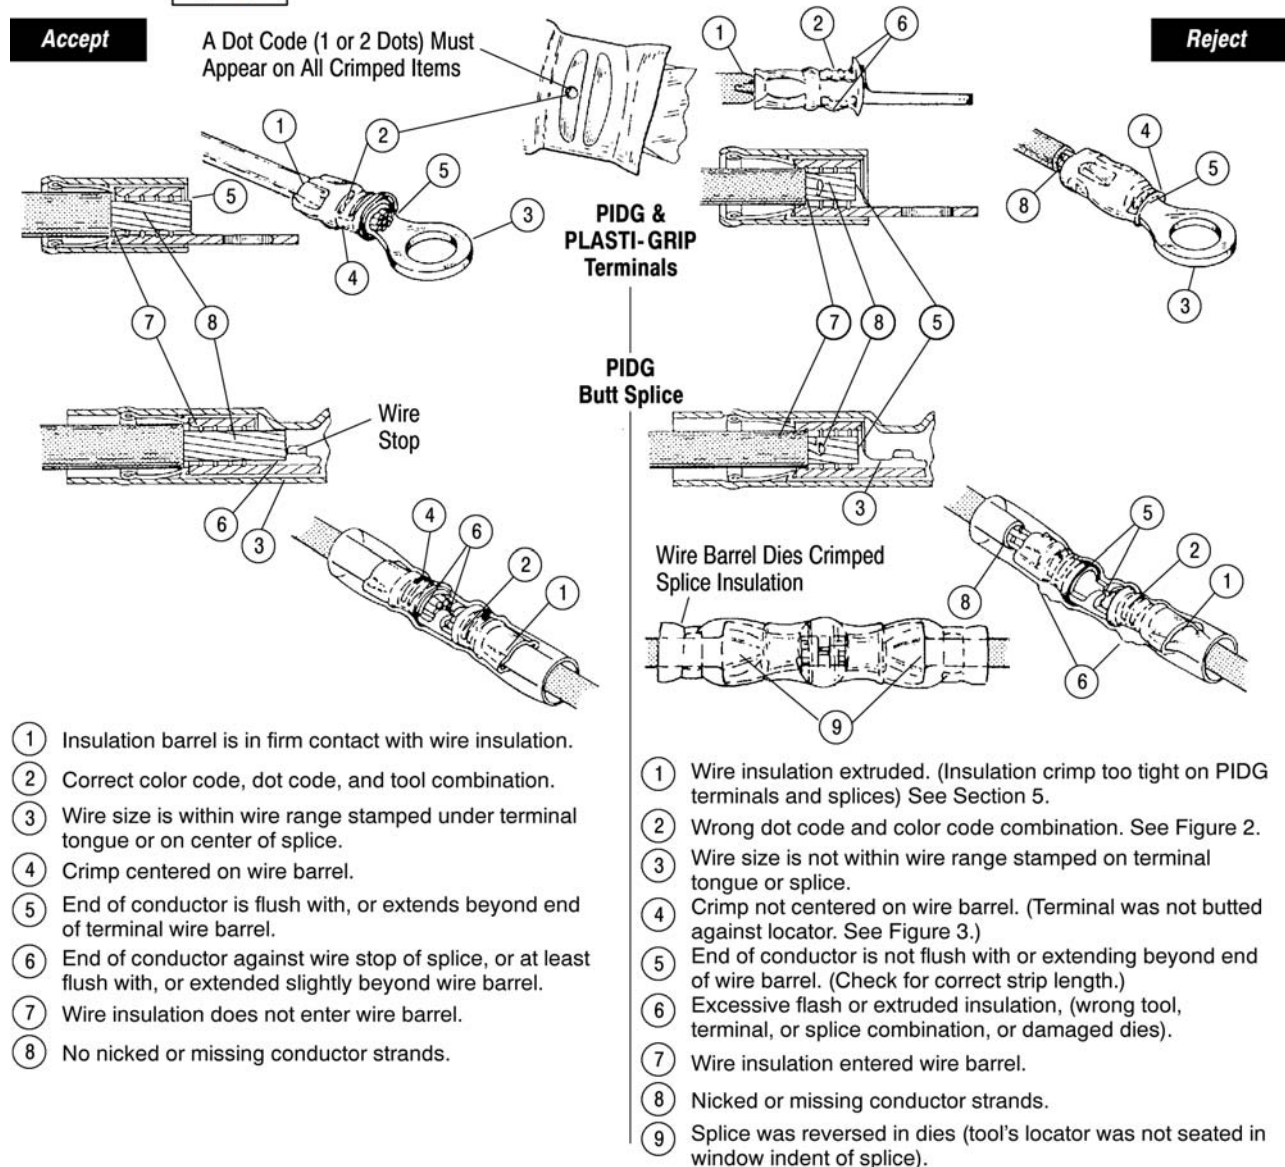

Figure 6
8. Refer to Section 6 and Figure 6 or Figure 7 for terminal or splice "Crimp Inspection" procedure.
Inspect crimped terminals, splices and spare wire caps by checking the features described in Figure 6 or Figure 7.